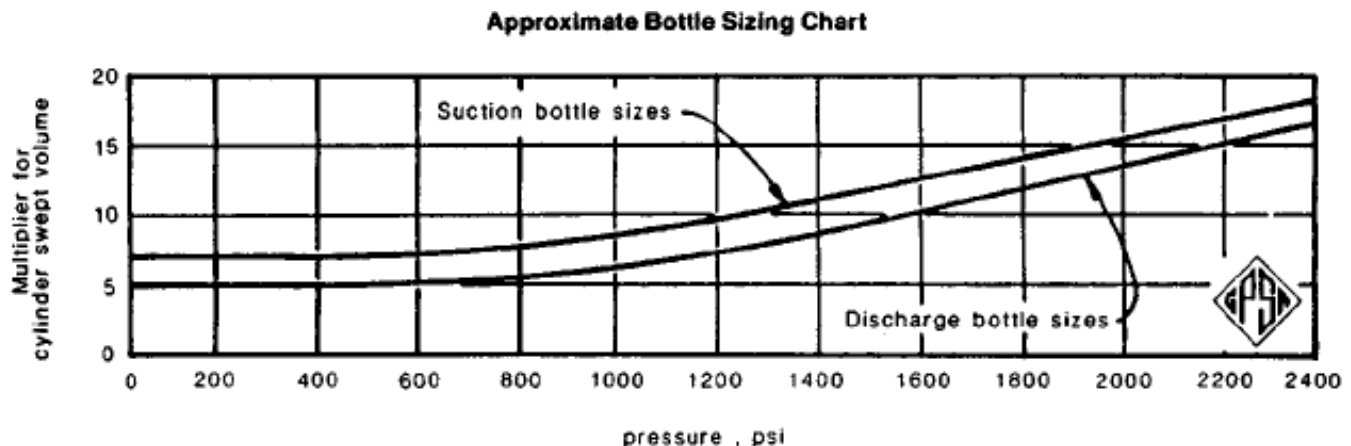

Figure 11-24. Pulsation bottle sizing chart (approximation). (Reprinted with permission from GPSA Engineering Data Book, 10th Ed.)
- For smaller, high-speed compressors, the sizing rule of thumb in conjunction with pulsation bottles sized from Figure 11-24.